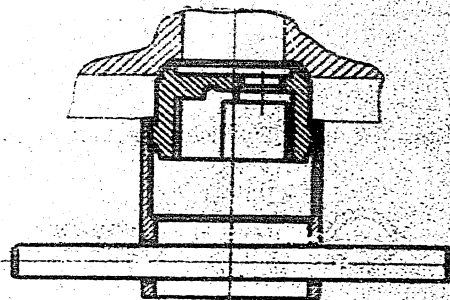

Fig. 14
b) removal of the valve ring from 2nd and 3rd stage head by means of a special wrench (Fig. 14).